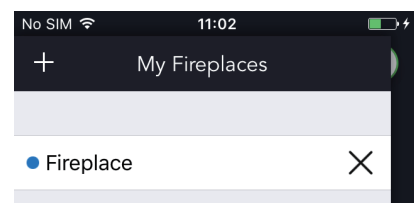

Fig. 6 Fireplace Connected
6. (Fig. 6) Blue light represents the Fireplace is connected properly and ready to use